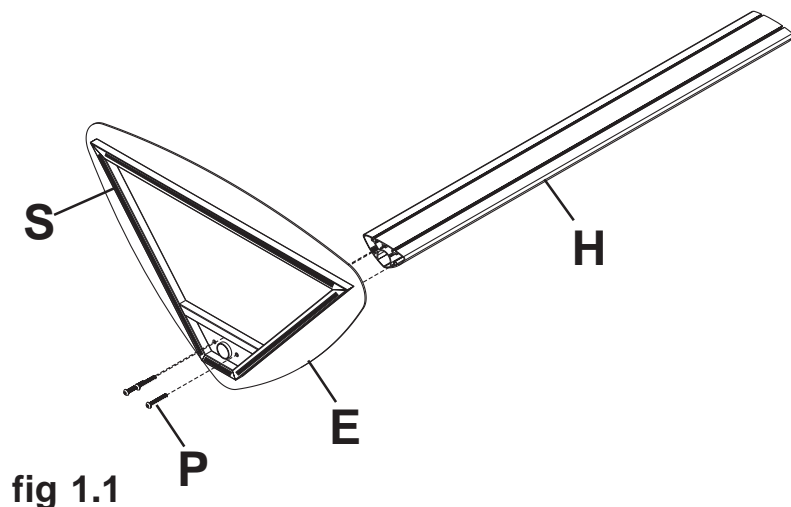

fig 1.1
- 1** Cut adhesive felt (**S**) into four pieces as shown in figure 1.1 below and affix to bottom of base (**E**).